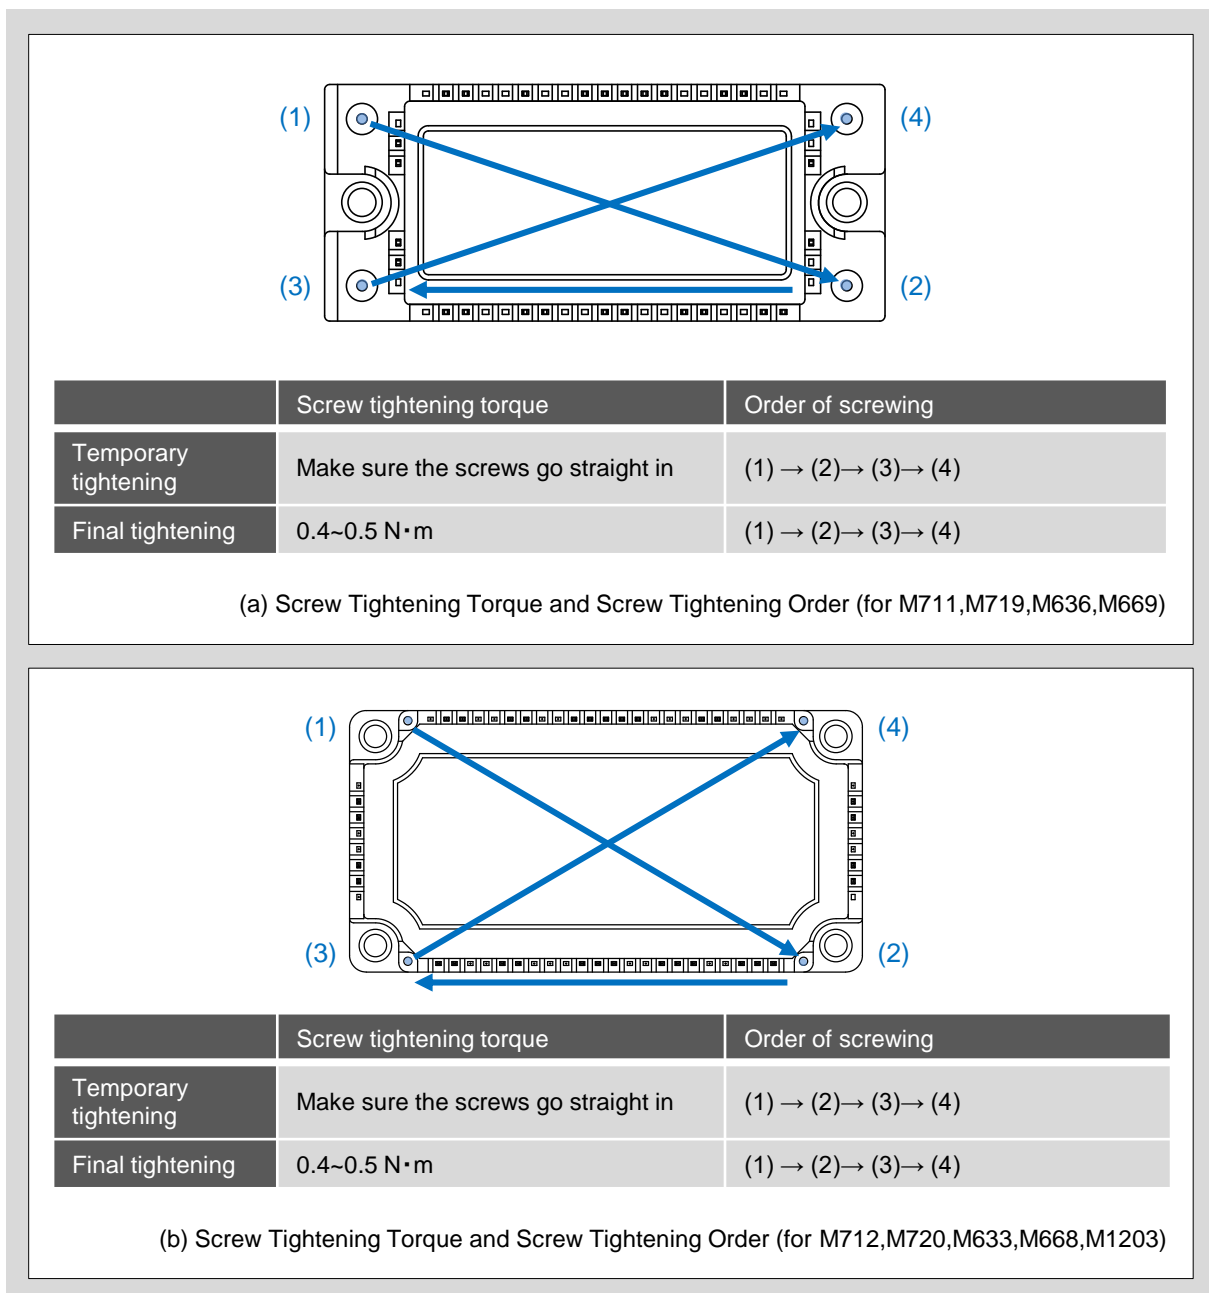

Fig. 4 Screw Tightening Torque and Screw Tightening Sequence
2. To secure the module with equal force, first perform temporary tightening with a torque of 1/3 of the final tightening torque in the order shown in Fig. 4.